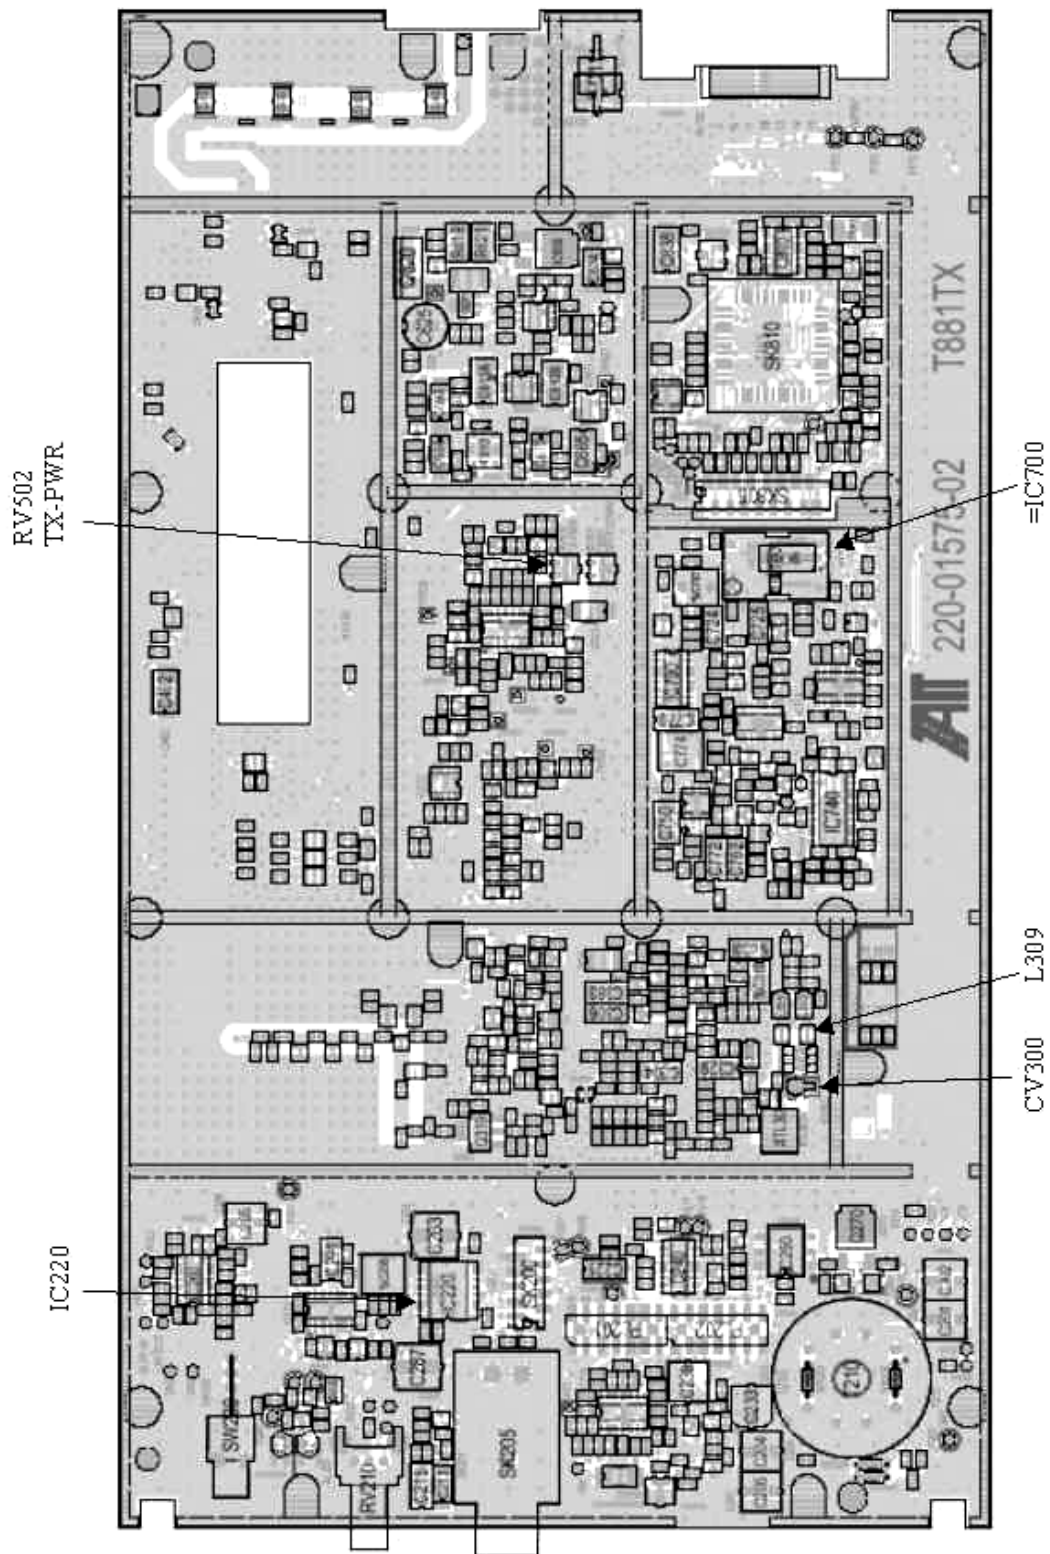

Figure 51 - T881-0200 Transmitter Tuning Controls location
Note 1: Refer to Figure 51 (T881).
- T881 = 1W +0/-300mW (RV502, Figure 51)